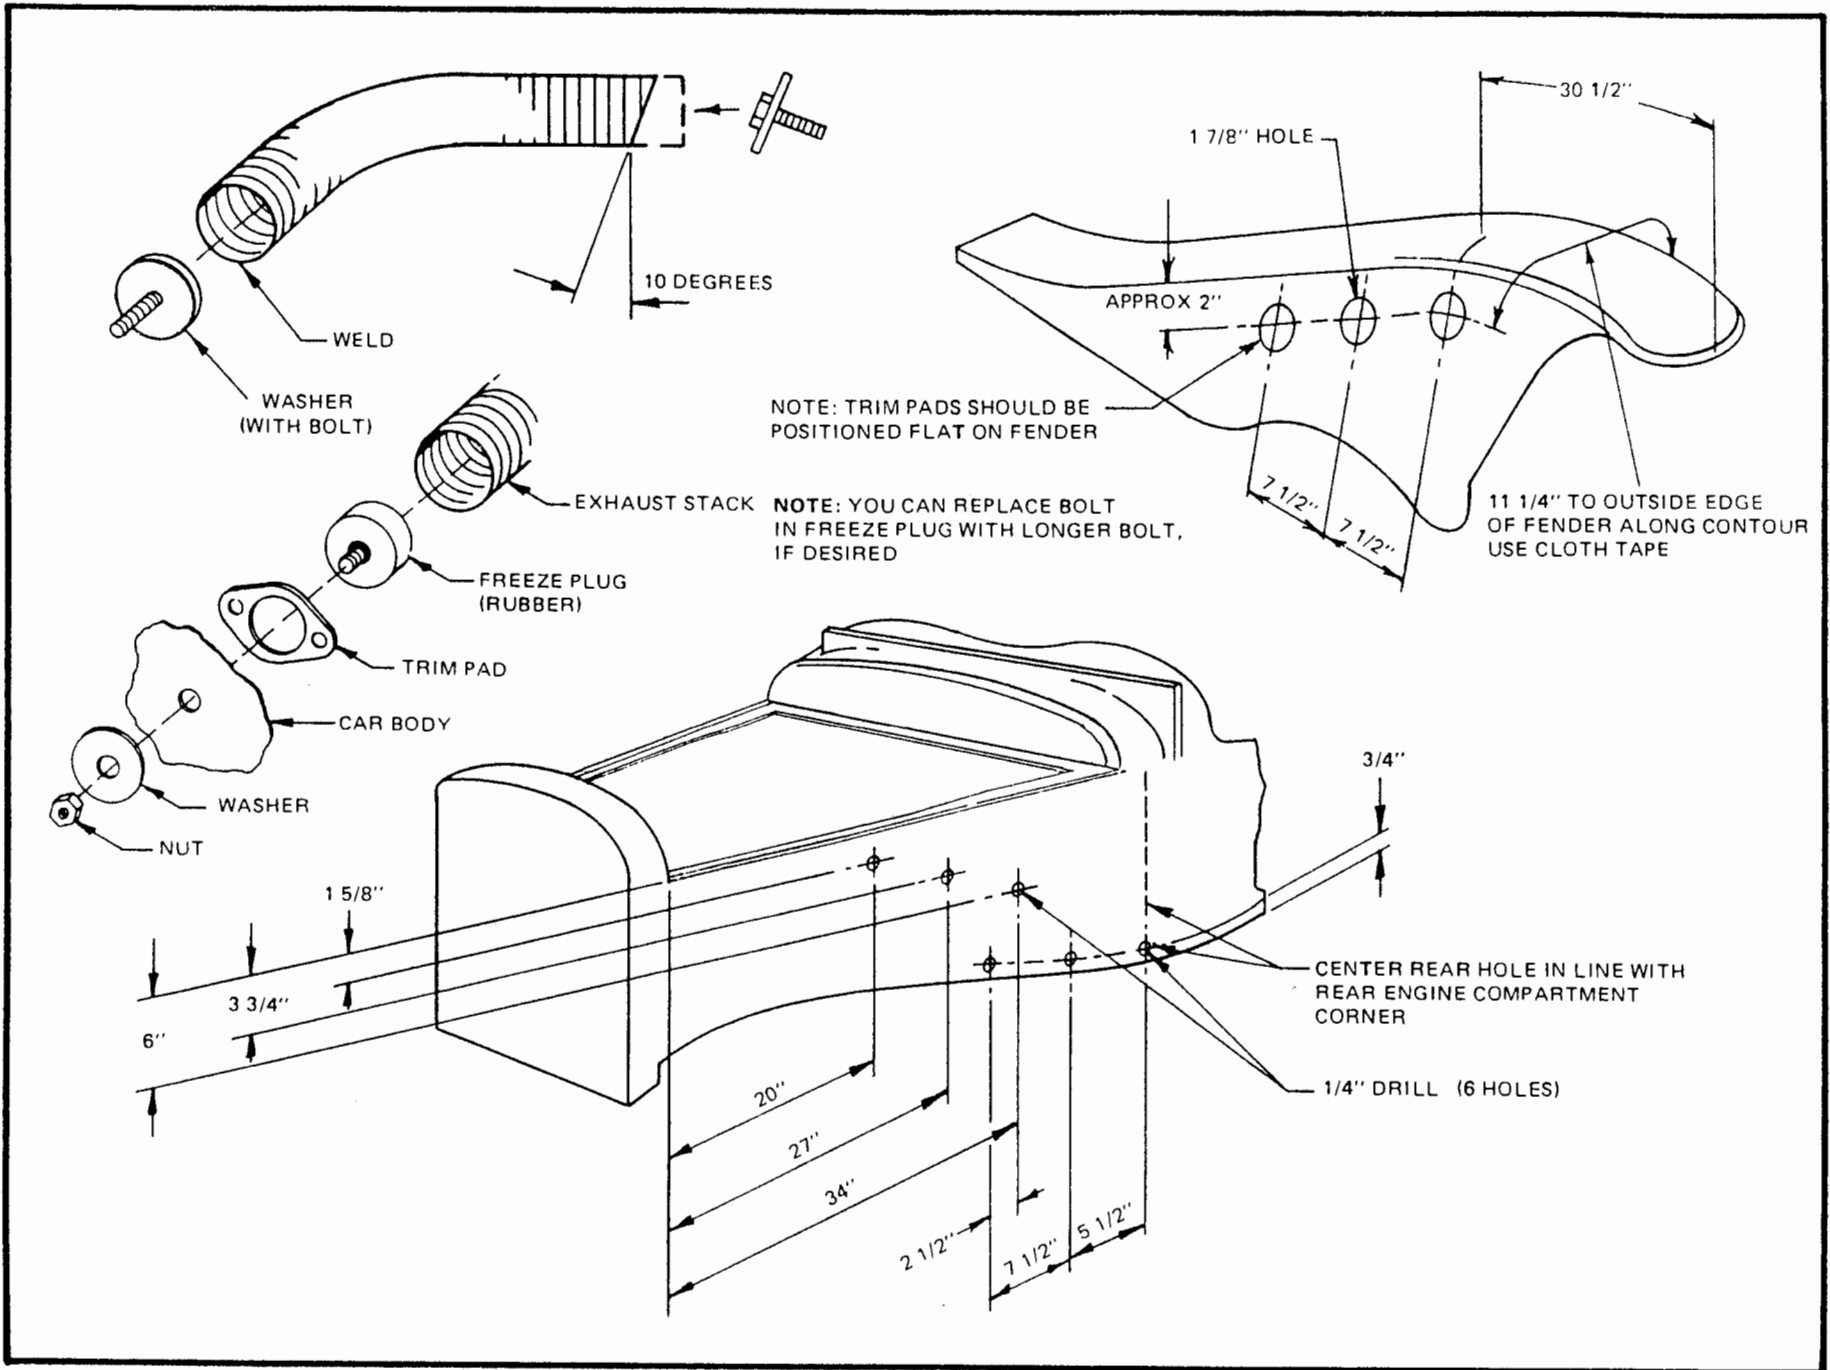

Figure 4
- Mark the hole centers on the body (Figure 4) and drill holes. Use 1/4" drill bit.
- Drill three 1 7/8" holes in each fender (Figure 4). Draw diagonal line through hole centers on body and fenders where trim pads are placed.